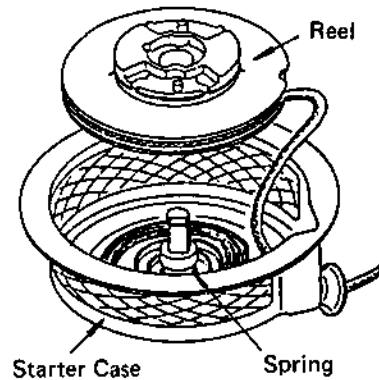

Fig. 70
- 4) Take out the reel from the starter case as shown in Fig. 70.